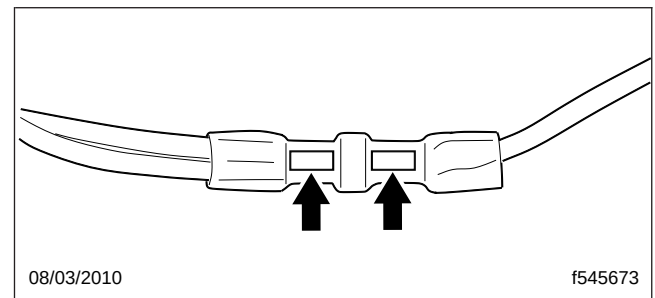

Fig. 2, Properly Crimped Splice
2. Crimp the splice connector onto the wires. Use the type of crimp tool that makes a dimple in the connector. The dimple must be at least 3/16 inch wide or there will be too much space inside the connector and the solder will not flow into the wire. This crimp provides the mechanical retention needed. See Fig. 2.